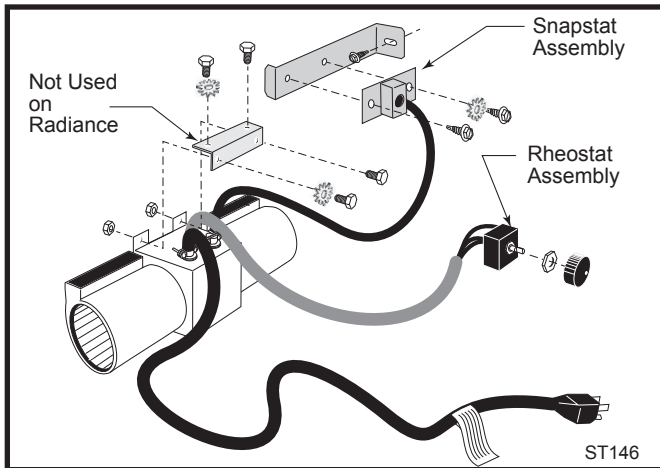

Fig. 10 Fan kit components.
1. The fan kit includes a Blower Assembly and a Rheostat Assembly, connected by a cable. (Fig. 10) The Blower Assembly mounts to the bottom rear of the stove, and the Rheostat mounts to the left side of the valve. The assembly includes a 'snapstat' which automatically turns the fan On (or Off) above (or below) approximately 109°F. The Rheostat also provides a range of fan speed settings from Off (which overrides the snapstat function) to High. Unpack and inspect the Blower assembly. Confirm that the fan spins freely.